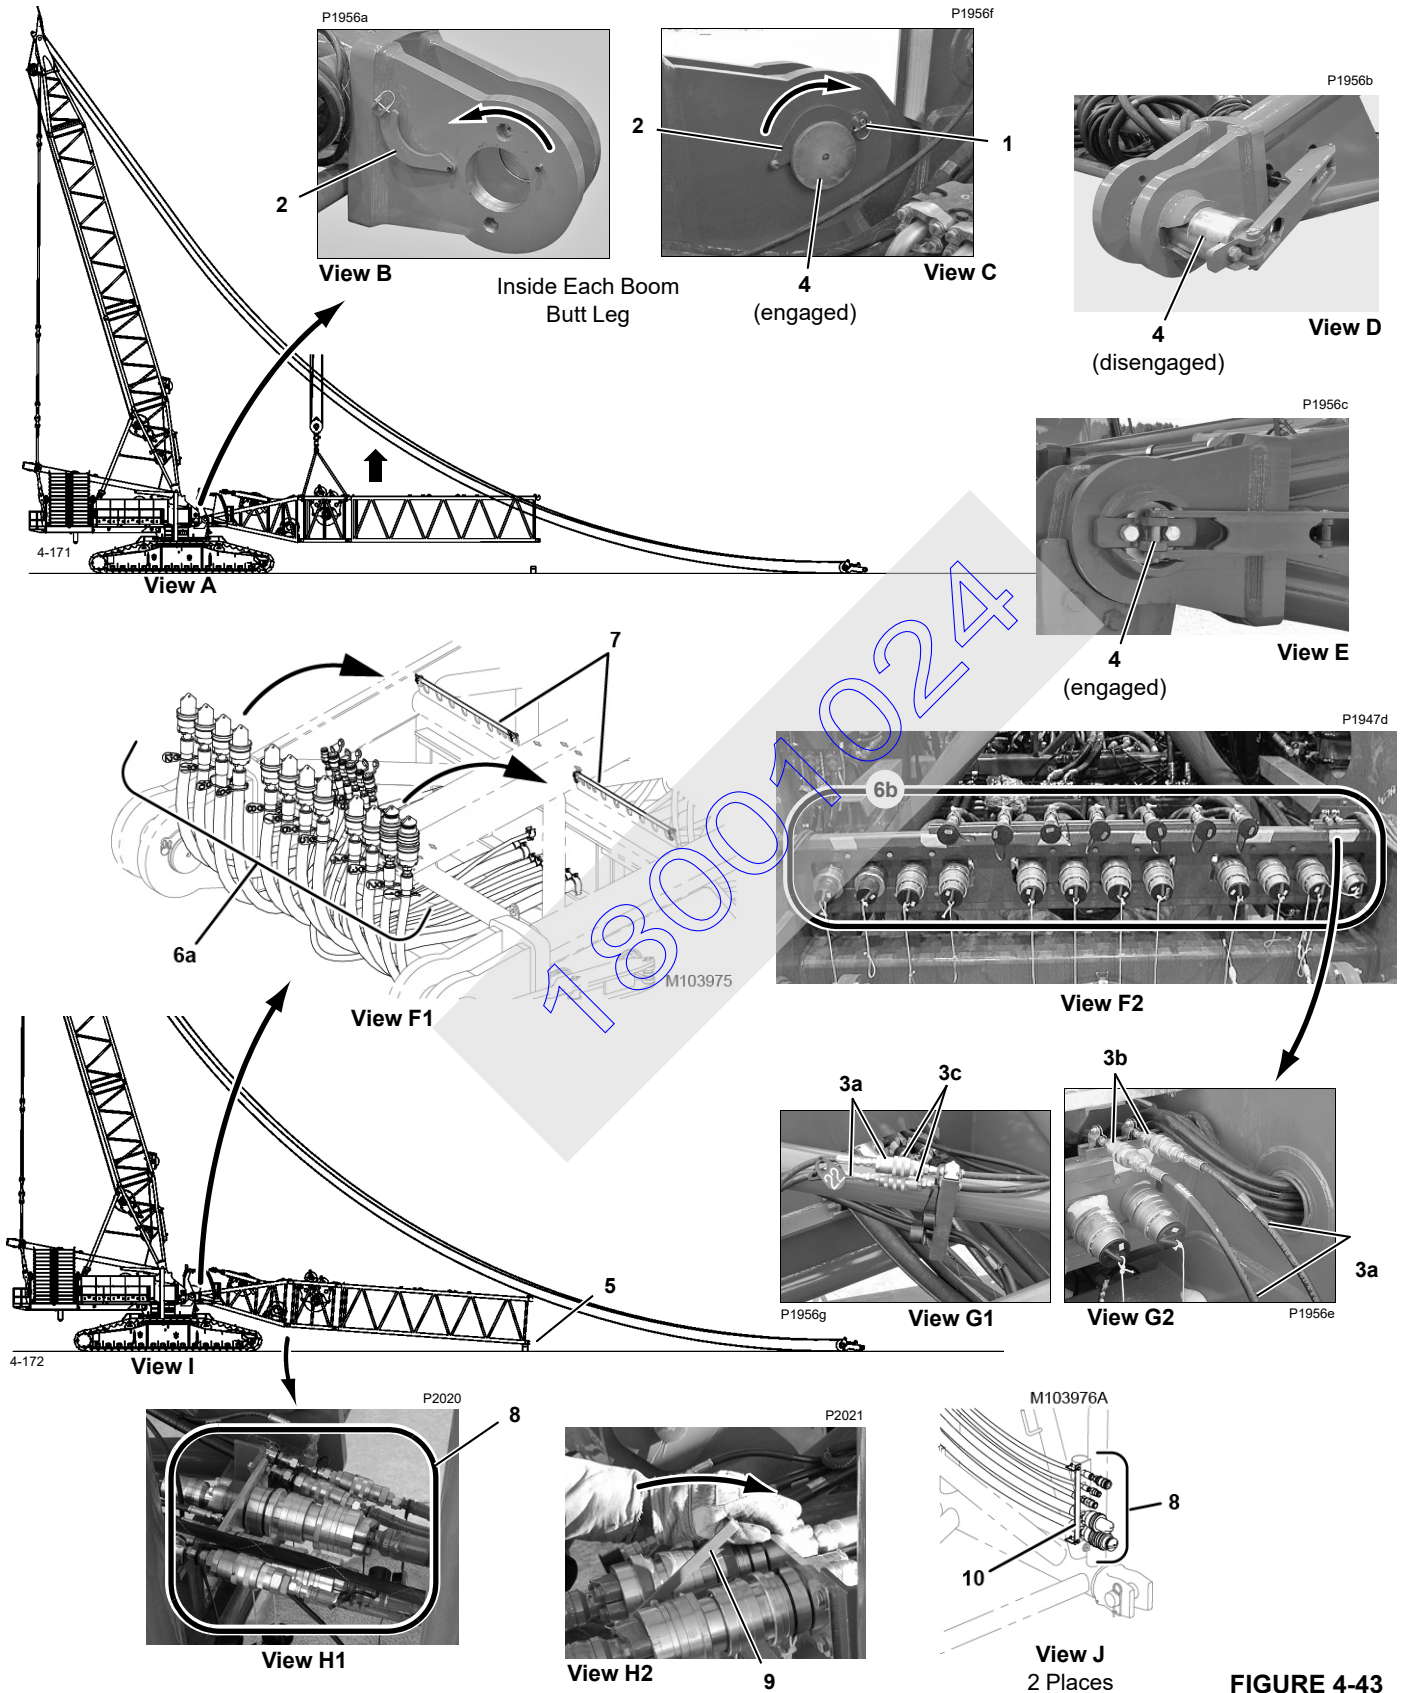

FIGURE 4-43
See Figure 4-43 for the following procedure.
**Legend for Figure 4-43**